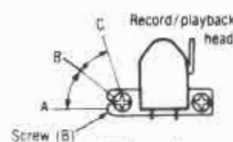

Fig. 4
2. Playback the 8kHz signal from the test tape (QZZCFM). Adjust screw (B) in fig. 4 for maximum output L-CH and R-CH levels. When the output levels of L-CH and R-CH are not at maximum at the same point adjust as follows.
3. Turn screw (B) shown in fig. 4 to find angles A and C (points where peak output levels for left and right channels are obtained). Then, locate angle B between angles A and C, i.e., and point where L-CH and R-CH outputs are balanced. (Refer to figs. 4 and 5.)
5. Playback the 8kHz signal from the test tape (QZZCFM). Adjust screw (B) shown in fig. 4 so that pointers of the two VTVMs swing to maximum and a lissajous waveform as illustrated in fig. 7 is obtained on the oscilloscope.